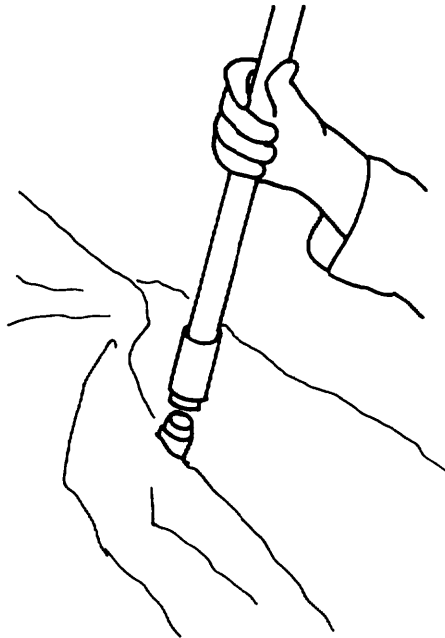

FIG 8
7) Lift the kingpost, and fit it over the plug on top of the keel, taking care not to pinch the sail in the process. (Fig 8) You must have the keel centered between the partially deployed leading edges in order to install the kingpost. Check that the bridle cables are not twisted or tangled.